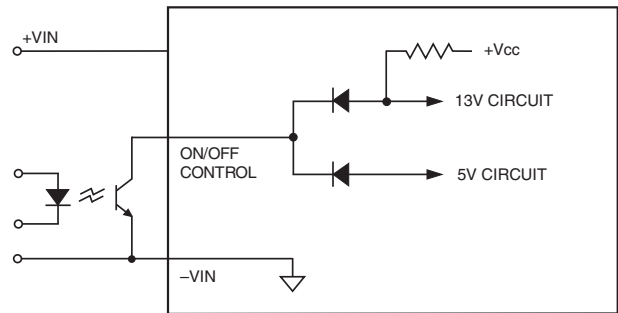

Figure 6. Driving the Negative Logic On/Off Control Pin (simplified circuit)
**Positive** (“P” suffix) logic models are enabled when the on/off pin is left open (or is pulled high, applying +3.5V to +15V with respect to –Input) as per Figure 6. Positive-logic devices are disabled when the on/off pin is pulled low (0 to 1V with respect to –Input).
**Negative** (“N” suffix) logic devices are off when pin is left open (or pulled high, applying +2.5V to +15V), and on when pin is pulled low (–0.1 to +0.8V) with respect to –Input as shown in Figure 6.